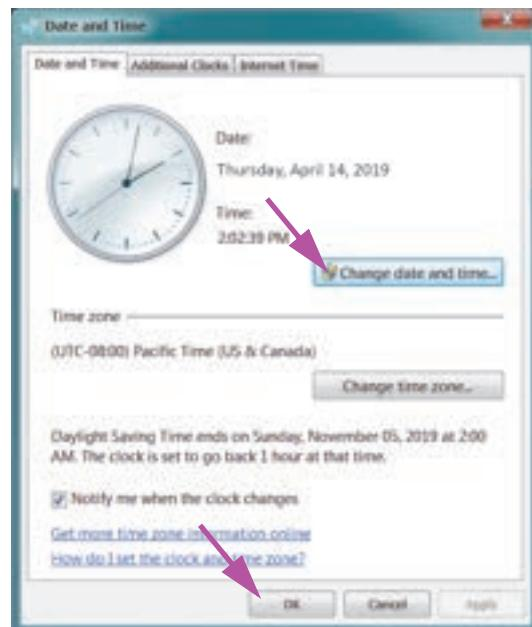

Figure 2-31. Date and Time Properties Dialog Box
1. Click **Control Panel > Date and Time**. The Date and Time dialog box appears. See Figure 2-31.
4. Click **OK** to return to the Date and Time dialog box. See Figure 2-31.